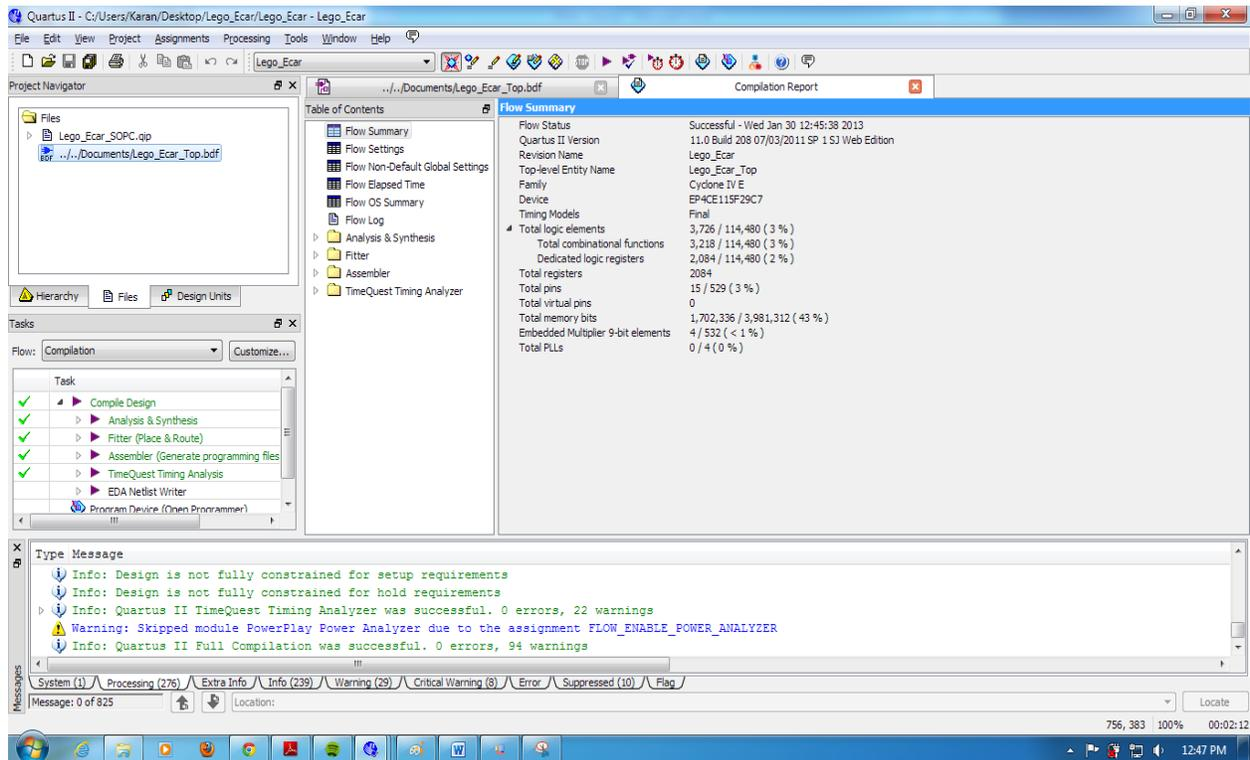

Figure 1-58: Compilation
38. Choose **Processing > Start Compilation**. Figure 1-58 shows the compilation process. Note: You must select **Lego_Ecar_Top.bdf** as the top level entity. This can be done by right clicking and selecting the same.